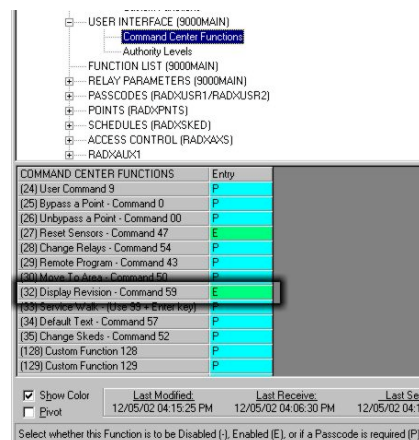

Figure 2: Enable Display Revision Prompt in RPS
- In RPS (see *Figure 2*), this function is located at: